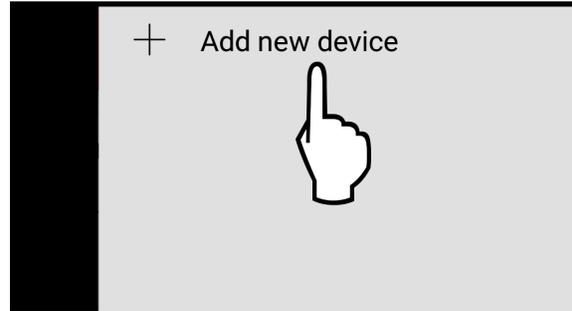

Figure 10. Add New Device
1. In the Android mobile app, press the menu button located at the top right corner of the screen, then press "+ Add new device". See **Figure 10**.